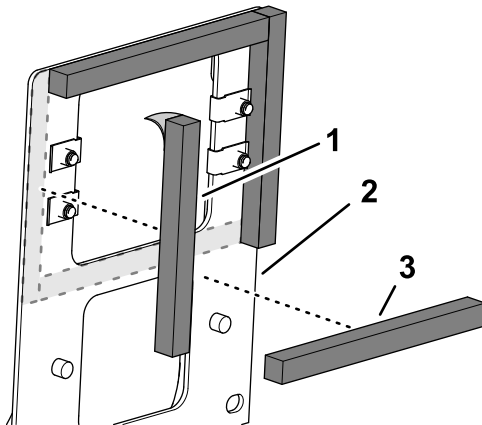

Figure 7
6. Remove the adhesive backing from the 4 foam strips (Figure 7).
7. At the other side of the fuel-cooler bracket, apply to vertical and horizontal foam strips as shown in Figure 7.